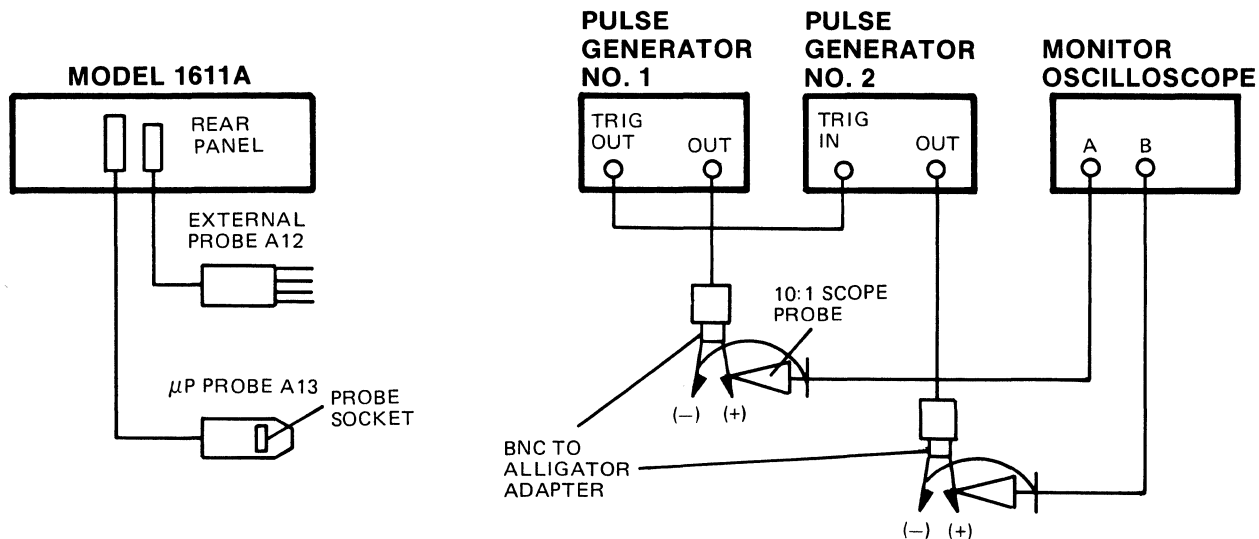

Figure 4-4. Wait, HLDA, and Inte Test Setup
- Connect test equipment as shown in figure 4-4.